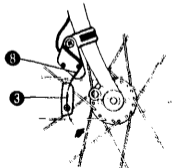

Fig. 9
- (3) Align the marking lines of magnet and sensor. (Fig. 9)